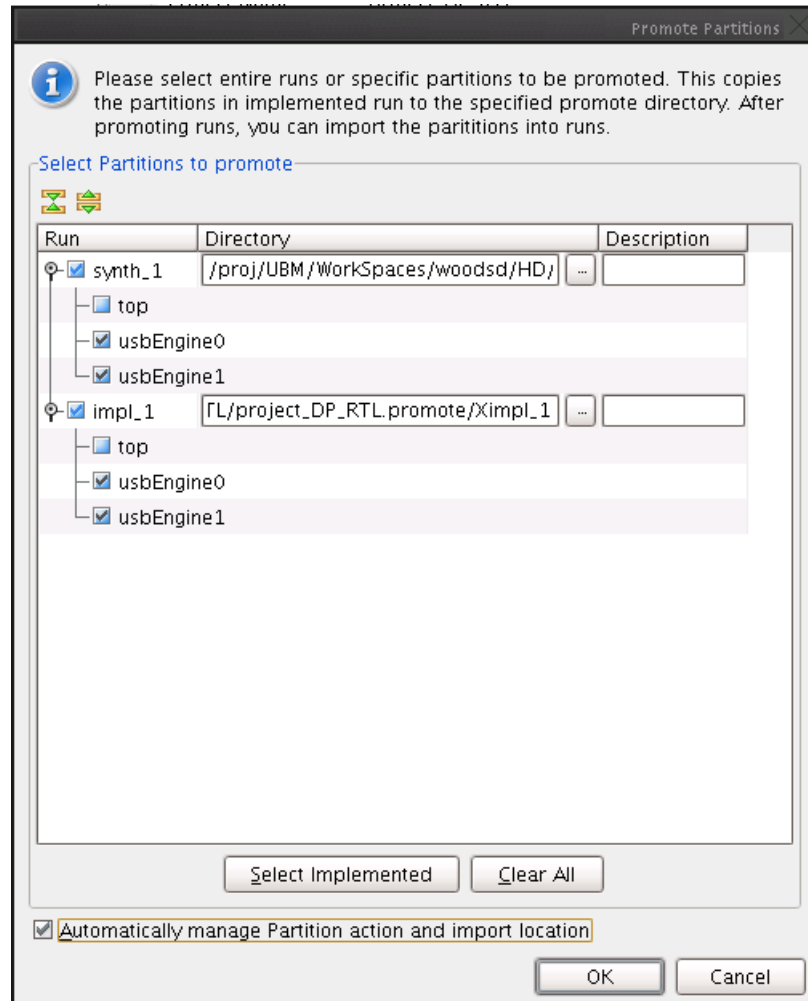

Figure 1-12: Promote Partitions Dialog Box
5. Verify that the two usbEngine module instances are checked for promoting for both synthesis and implementation (Figure 1-12).